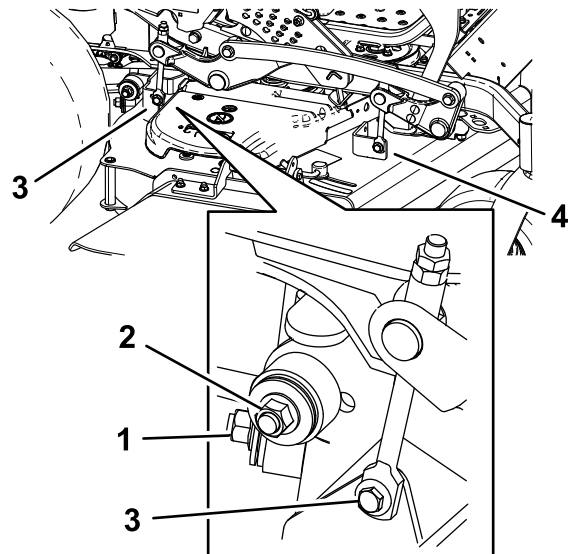

Figure 103
7. Remove and retain the hardware on both sides of the deck as shown in Figure 103.